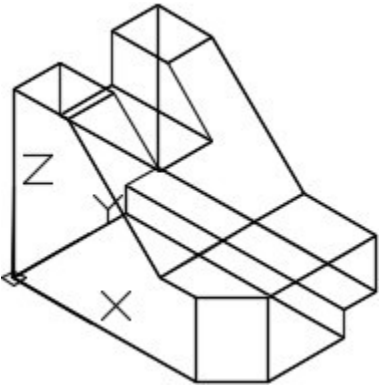

Figure 11-2
9. What is the current visual style shown in Figure 11-2?